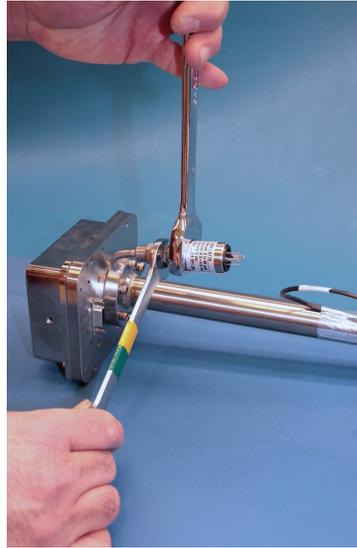

Figure B-6 Removing the old pressure sensor
12. Using a 9/16 in. wrench, secure the flange while using a 7/8 in. wrench to remove the old pressure sensor. Refer to Figure B-6.